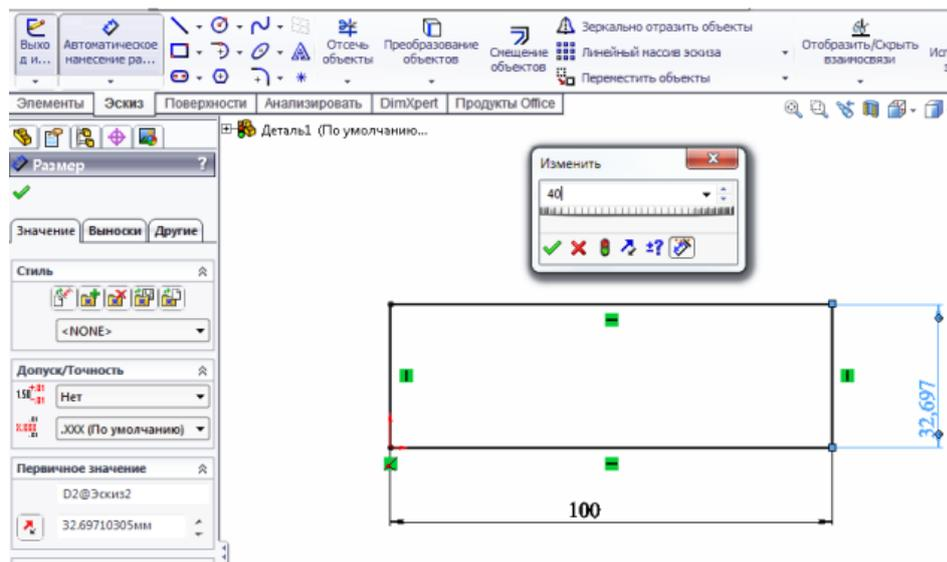

Figure 7.3 – Constructing a rectangle
7.2.5 In the upper part of the panel, click on the "Rectangle" tool  , fix the first point in the center of the origin, draw a rectangle. The dimensions of the rectangle are as follows: length 100 mm, width 40 mm. To set these values, click on the "Automatic dimensioning" icon  , we put down the dimensions. Upon completion, click on the "OK" icon  . Then we exit the sketch by clicking on the arrow button in the upper right corner of the drawing (figure 7.3).